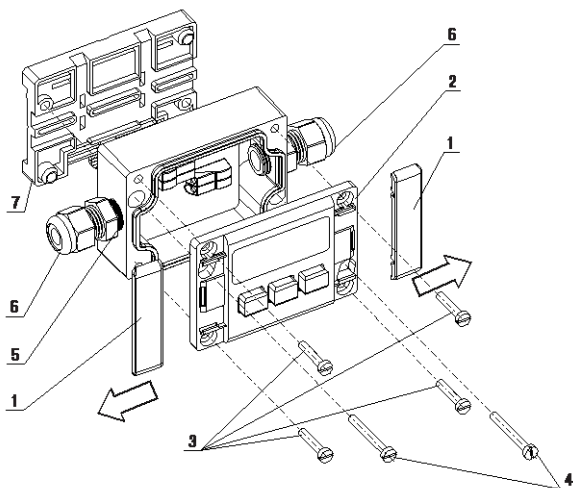
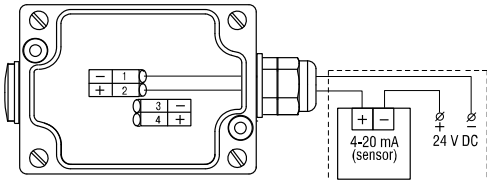

Fig. 2
Fig. 4 Connection from the right
1. Remove the slide covers (1) in the direction of the arrows (Fig. 2).
2. Unscrew the screws (3) and remove the front panel (2).
3. Screw the cable glands (included) with the sealing rings (5) tightly into the enclosure, so as to guarantee the IP65 protection.
6. Connect the wire ends according to the wiring diagrams (Fig. 4 - 6) and tighten the cap nut (6).
7. Put the front panel (2) back and fasten it with the screws (3).